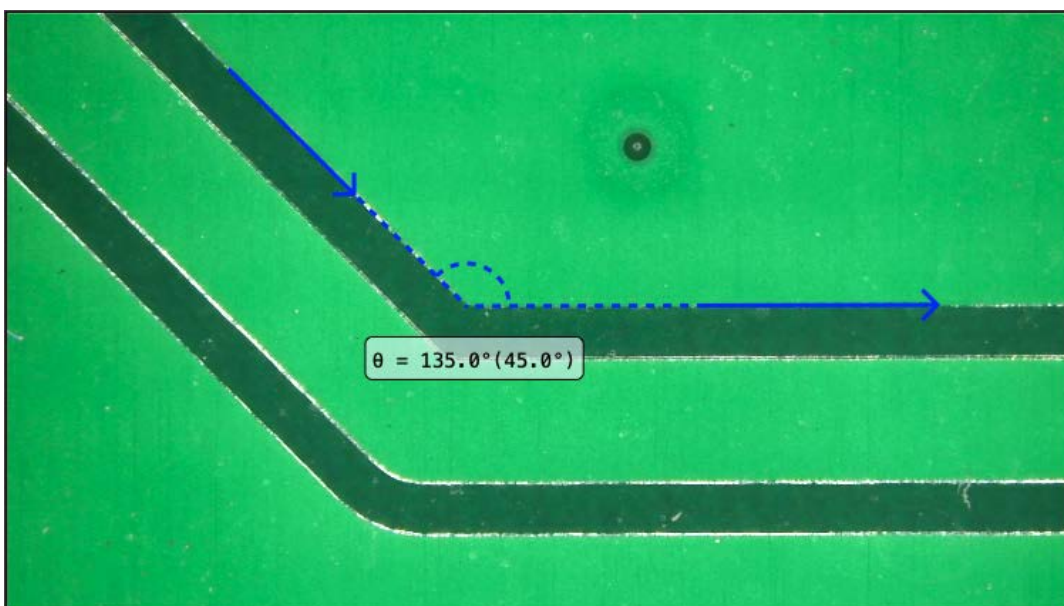

Figure 5-12 Example of four-point angle measurement
(10) 4 Point Angle : When measuring the angle that can apply  too. As shown in Figure 5-12, first draw the first line segment on one side of the angle you want to measure, and draw the second line segment on the other side of the angle to get the angle. The angles are 135° and 45° respectively, where the "dashed arc line" is the currently measured angle position.